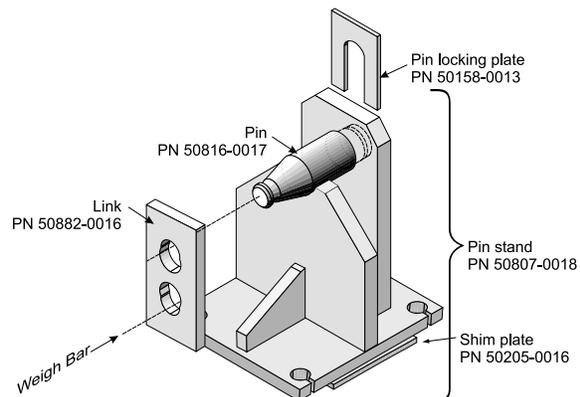

Figure 2
3. Place the pin stands in the positions you have marked. (Leave the pins out of the pin stands until the decks are lowered into place. This will make it easier to lower the decks into position without bumping the pin stands.) See Figure 2.